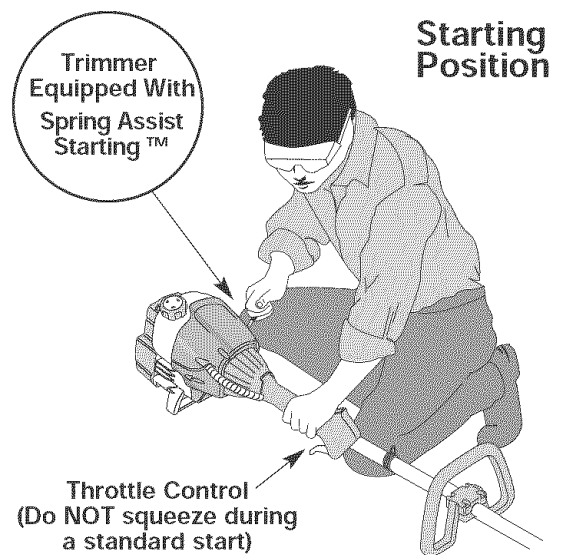

Fig. 8
**WARNING:** Avoid accidental starting. Make sure you are in the starting position when pulling the starter rope (Fig. 8). To avoid serious injury, the operator and unit must be in a stable position while starting.
4. Crouch in the starting position and **do not squeeze the throttle control** (Fig. 8). Pull the starter rope out with a **controlled and steady motion** up to 10 times, until the engine starts.